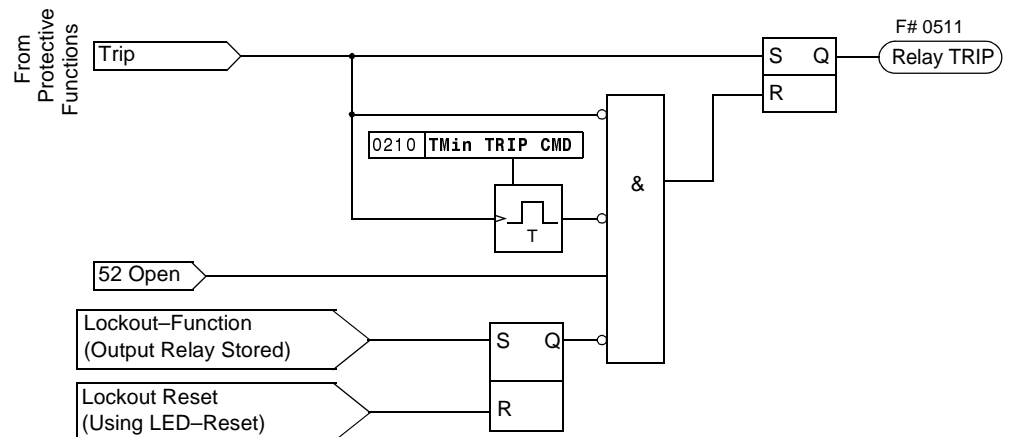

Figure 6-69 Terminating the Trip Signal
- All trip signals from a protection function hold the 0511 ReLay TRIP function, and start the minimum trip signal duration timer (set at address 0210 **Tmin TRIP CMD**, see Figure 6-69). This trip signal duration timer ensures the trip signal is transmitted to the circuit breaker for a sufficient amount of time, even if the function which issued the trip signal drops out quickly. The trip signal is only terminated after all protection functions drop out AND the minimum trip signal duration expires.